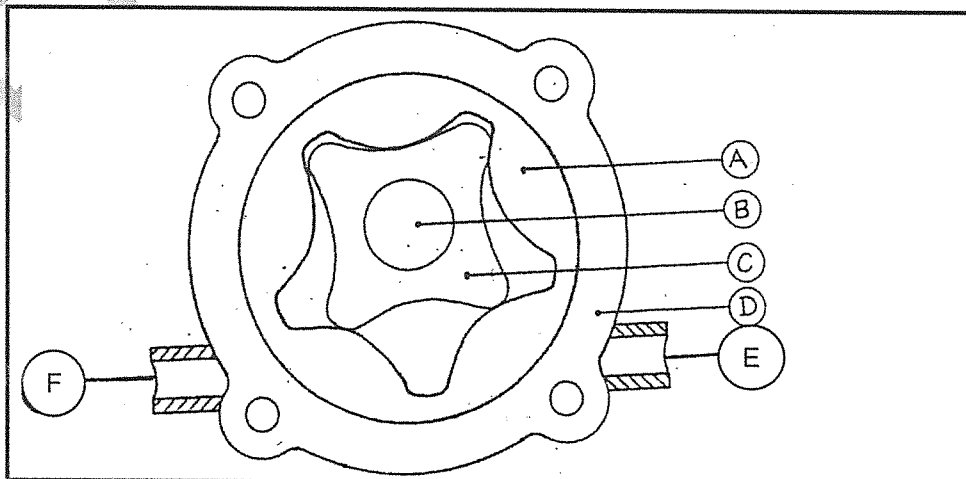

FIGURE 3
2.1 FIGURE 3 below shows the internal parts of the internal combustion engine.